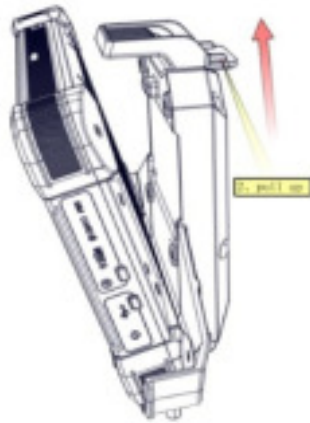

Fig. 4.2
4.1.2 Pull the Buckle up as the fig.4.2 shown.